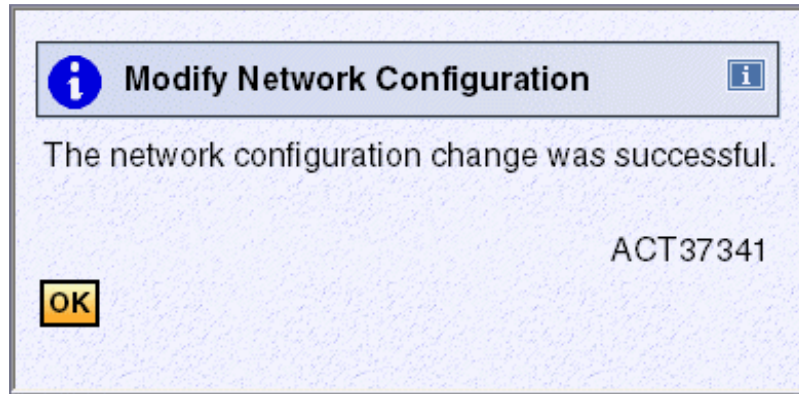

Figure 14-13 Network Configuration - Define roles success (SCZP201)
5. Confirm by clicking **Yes**. This displays the Modify Network Configuration, message Message ACT37341, indicating that the change was successful (Figure 14-13).